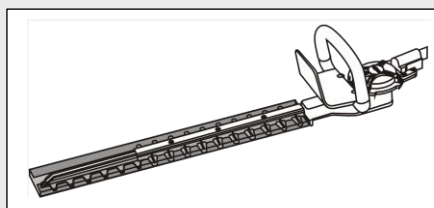

Fig. 2
2. Make sure the blade guard slides fully onto the cutting blades to ensure all cutting teeth are covered (Fig. 2).